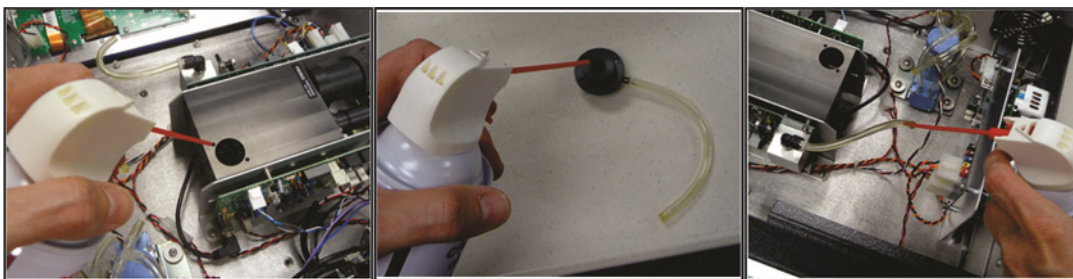

Figure 11. Maintenance: final dusting.
16. Use canned air made specifically for dusting electronics to blow dust and other debris from the optics chamber, the cup, the bottom of the optics chamber, and the tubing (Figure 11).